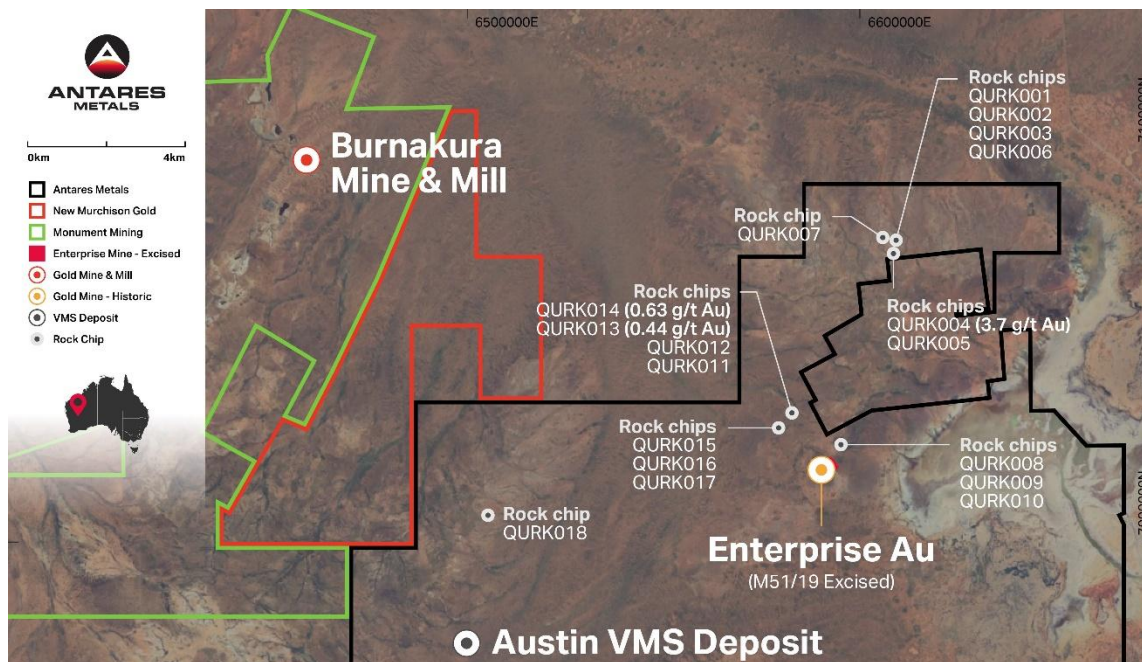

Figure 3: AM5 Quinns Gold and Copper Project – Prospects and rock chip samples
- Inclusion of figure 3 map with rock chip sample locations
A targeted mapping and sampling program (18 rock chips, QURK001-QURK018) completed in late 2025 has yielded highly encouraging results from previously unexplored areas. Sampling of two previously unnamed historic workings identified new zones of gold mineralisation (Appendix 3). (Figure 3). Key results include: